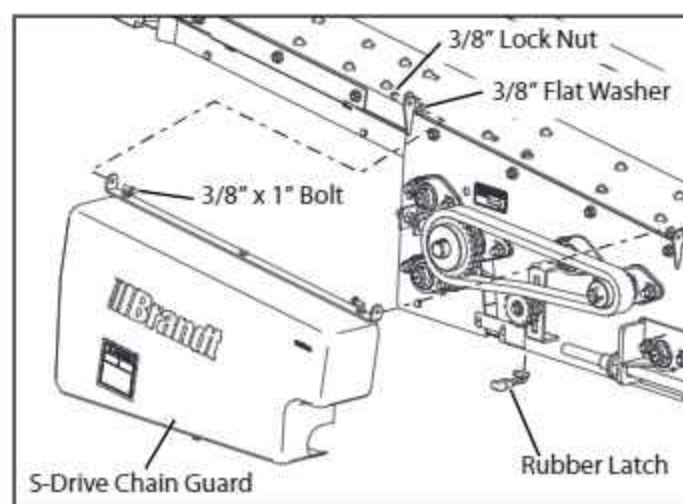

FIG. 3-64. S-Drive Chain Guard Installation
36. Install a Rubber latch where shown in Fig. 3-64.
37. Mount the S-Drive Chain Guard to the boot using two 3/8" x 1" bolts, flat washers and lock nuts. See Fig. 3-64.